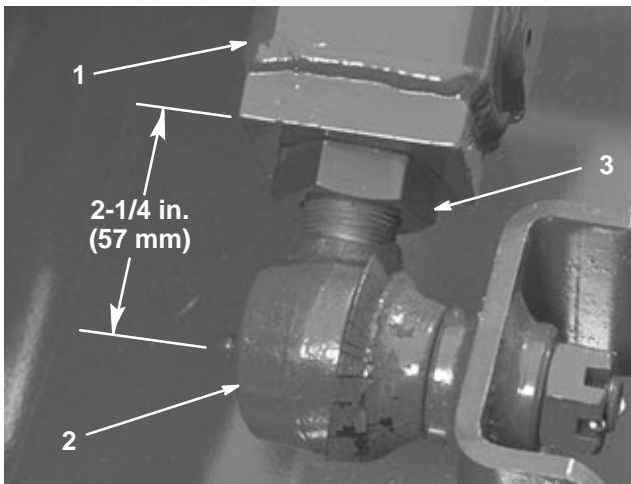

Figure 4
- Measure the distance from the end of each lift arm to the center of the ball joint (grease fitting). The distance should be 2-1/4 in. (57 mm) (Fig. 4). If distance is not 2-1/4 in. (57 mm), loosen the jam nut securing the ball joint to the lift arm and rotate the ball joint in or out until the distance is attained. Do not tighten the jam nuts at this time.